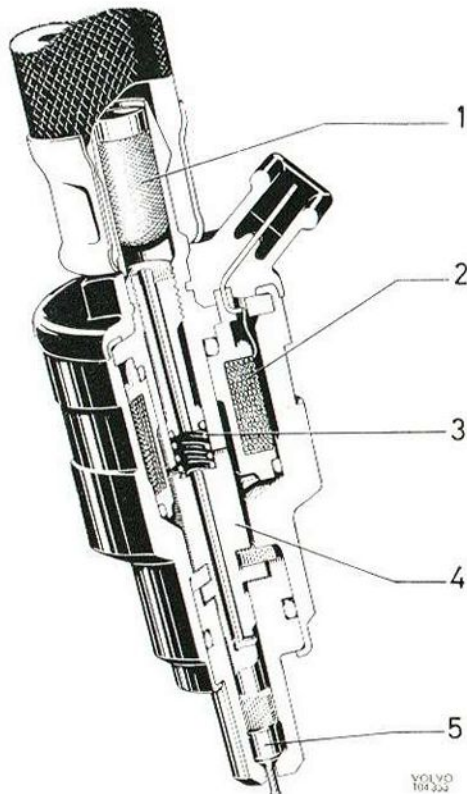

Fig. 2-158. Injector
The injector consists of a housing containing a sealing needle, magnetic winding and return spring, see Fig. 2-158. When the magnetic winding (2) is not in circuit, the return spring (3) presses the sealing needle (5) against a seat and this shuts off the supply of fuel.